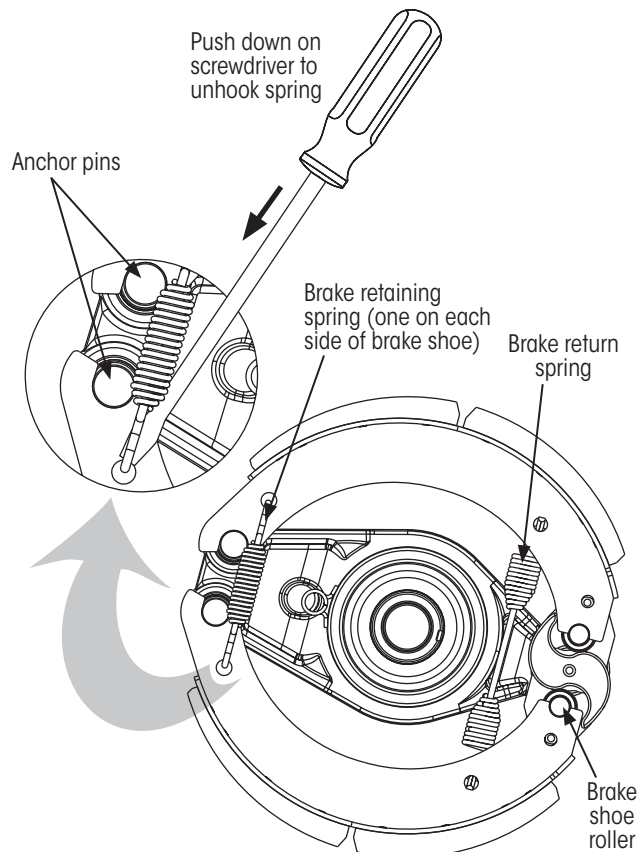
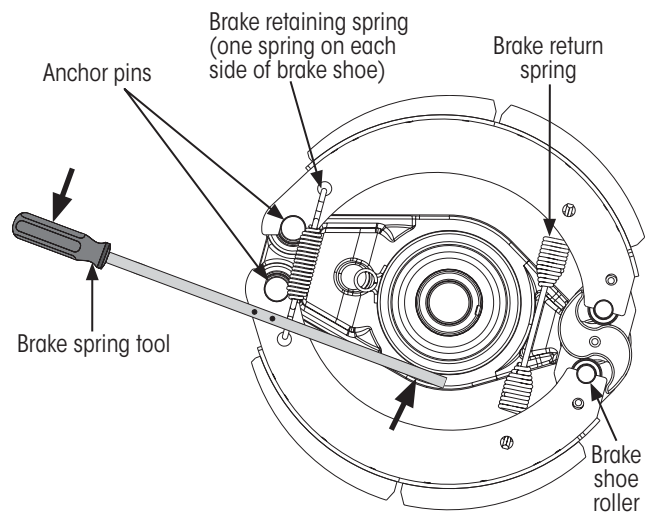

Figure 6: Removing brake retaining spring using Tool A
Figure 7: Removing brake retaining spring using Tool B
- While manually supporting** the lower brake shoe, use Tool A (Figure 6) or Tool B (Figure 7) to **unhook** both brake retaining springs from the brake shoes.
IMPORTANT: The brake return spring, brake shoe rollers and roller retaining clips (Figure 6) will remain on the brake shoes during this procedure.